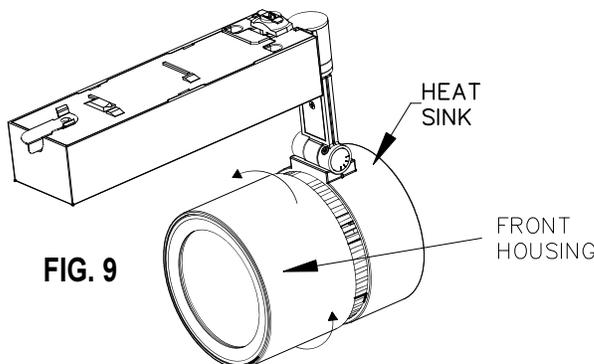

FIG. 9
INSTRUCTIONS FOR INSTALLING OPTIONAL ACCESSORIES (FIG. 9&10).
1. Remove FRONT HOUSING by twisting counterclockwise to unlock from HEAT SINK. (FIG. 9)